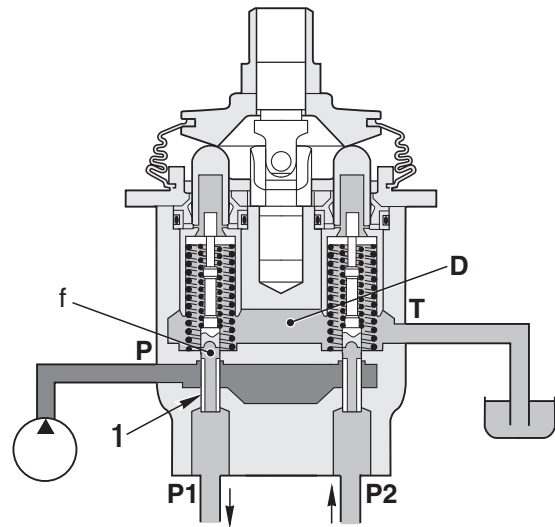

Fig. 1
Ports **P1** and **P2** of the PPC valve are connected to drain chamber **D** through fine control hole **f** in spool (1). (Fig. 1)
- When piston (4) starts to be pushed by disc (5), retainer (9) is pushed; spool (1) is also pushed by metering spring (2), and moves down.